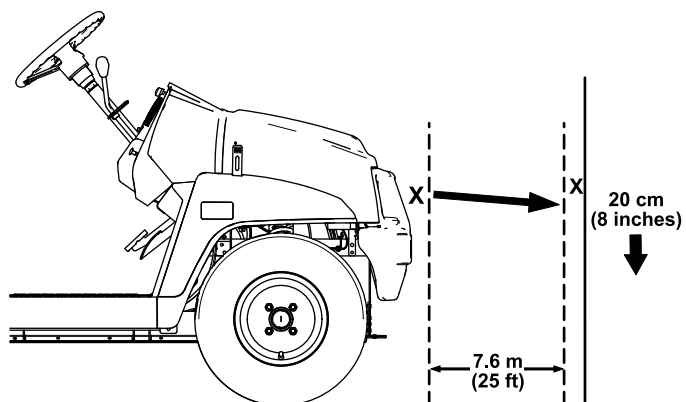

Figure 47
1. Park the machine on a level surface with the headlights approximately 7.6 m (25 ft) from a wall (Figure 47).
The brightest part of the headlight beam should be 20 cm (8 inches) below the mark placed on the wall (Figure 47).